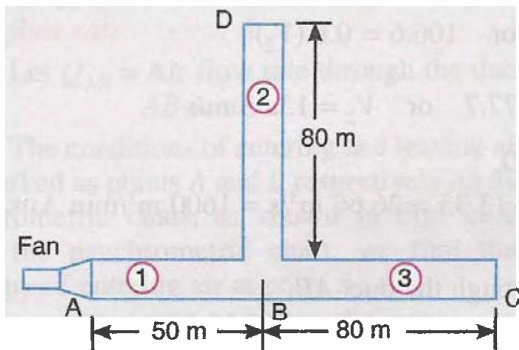

Fig. 20.6
**Example 20.5.** A duct 2 m by 1 m in size carrying conditioned air runs in a straight line for 50 m from the supply fan. It divides into two parts each of 80 m long and 2 m by 1 m in cross-section as shown in Fig. 20.6.